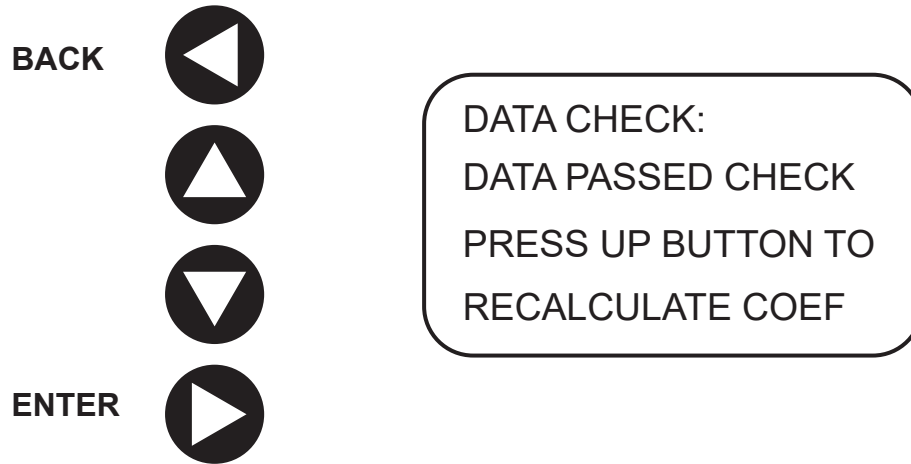

Figure 6.5 3017M display screen with data check pass
5. After the **STARTUP** sequence, the 3017M will begin the analysis of the sample. Allow the instrument to make at least five (5) measurements.
11. Use the down arrow to select: *RE-LINEARIZE*. Once this selection is made the following screen will be displayed. See below. If the data check passed has passed all criteria, use the UP button to recalculate the linearization coefficients. If the data check did not pass, then it will be necessary to repeat this procedure. See **Figure 6.5**.